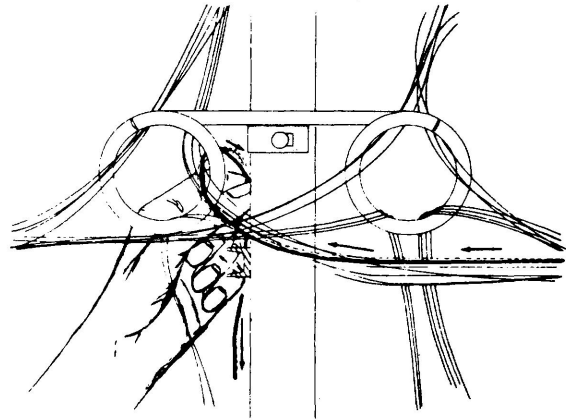
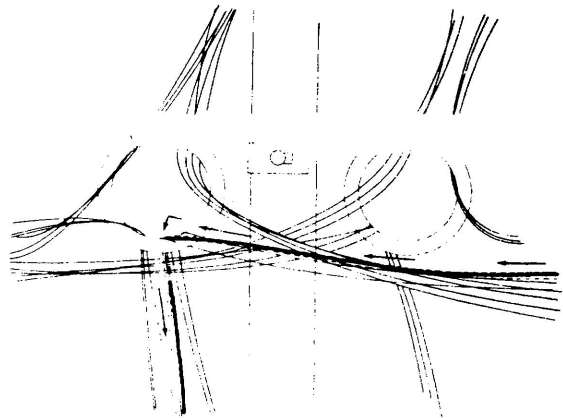

Figure 5. Left Hand Placed Under and Back of a Ring to Receive a Right-to-left Jumper.
Figure 6. Tied-Down Jumper Correctly Placed Against the Bottom Inside Edge of a Ring.
- (d) If the jumper is to go to a connecting block (or protector) three or more levels below its horizontal level, use the right hand to bring it around, inside the ring, to the bottom of the ring. Place the left hand under and back of the ring to receive the jumper (Figure 5) and place it in a down position (Figure 6). Such a jumper may be run in front of existing jumpers on the vertical side. Run as directly as possible into the proper fanning strip hole.